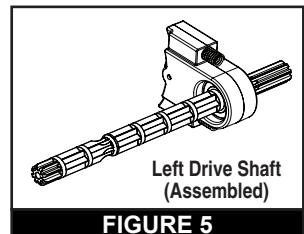

FIGURE 5
LEFT DRIVE KIT (FIGURE 5 AND 6)
4. Unpackage the new Left Drive Shaft and Reversing Drive. Assemble as shown in **Figure 5**.
5. Install the Drive Shaft (3) by pressing it into the Right Drive Gear (4).
6. Install the two Springs (5) into the Reversing Drive (6).
7. While compressing the two Springs (5), install the Reversing Drive (6) into the cleaner.